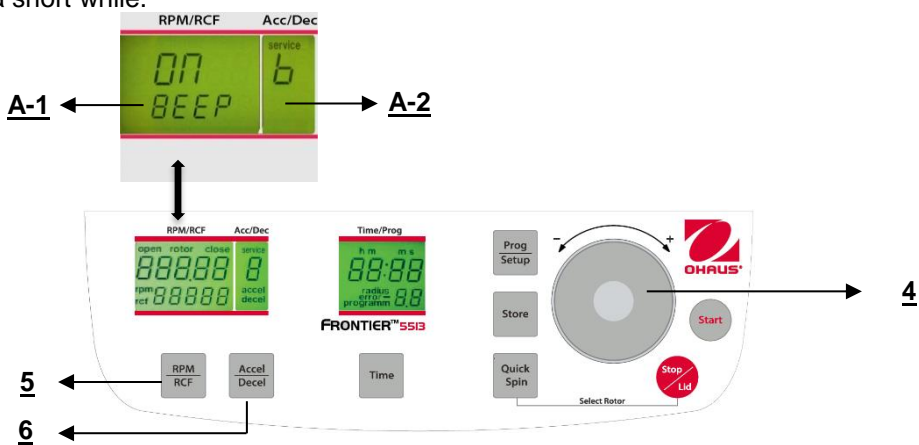

Figure. 33
Proceed as described under point 4.1.2 to enter this program mode and then press the key "**Accel/Decel**" (6). In the display "**Acc/Dec**" (A-2) the word "**Service**" flashes. Now select the letter "**B**". with the adjusting dial (4). As a result, in the display "**RPM/RCF**" (A-1), the word "**ON/BEEP** " appears. After pressing the key "**RPM/RCF**" (5), you can turn the keyboard sound (On) or (Off) with the adjusting dial (4). (See figure 33). After you have stored the settings (See 4.1.2) you can change back to the normal program mode again by switch off the centrifuge for a short while.